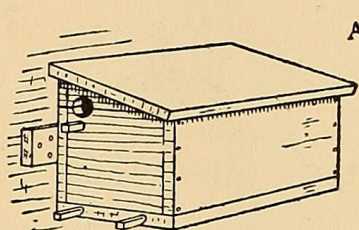

FIG. 480.
**A Box Bird-house** such as is shown in Fig. 480 can be made out of an empty starch box, or you may cut out the pieces and put together the box yourself. In case you
over the front and ends of the box, and nail it in place. Fit the perch sticks into holes bored in the ends of the box as shown in Fig. 480.
This house may be mounted upon a clothes-post, but it will look better if bracketed to a wall on account of the style of its roof. A wooden bracket may be cut out and nailed to the wall, or a strip 6 or 8 inches longer than the box may be nailed to the back and the ends of this nailed to the wall (Fig. 480).